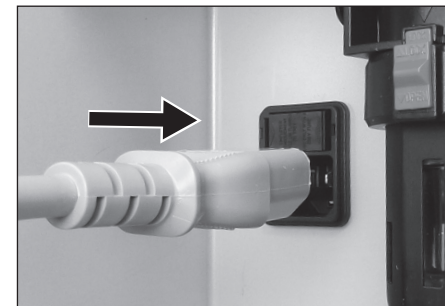

Fig. 10
- 2) Insert the AC power cord plug so that it fits the Connector Socket at the rear of the Unit (Fig. 10).